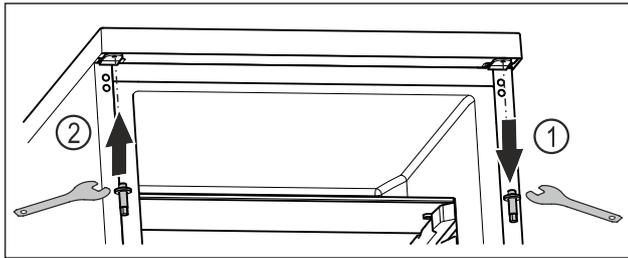

Fig. 21
- ▶ Unscrew the upper bolt with an Allen key. Fig. 21 (1)
- ▶ Tighten the bolt on the opposite side with an Allen key. Fig. 21 (2)